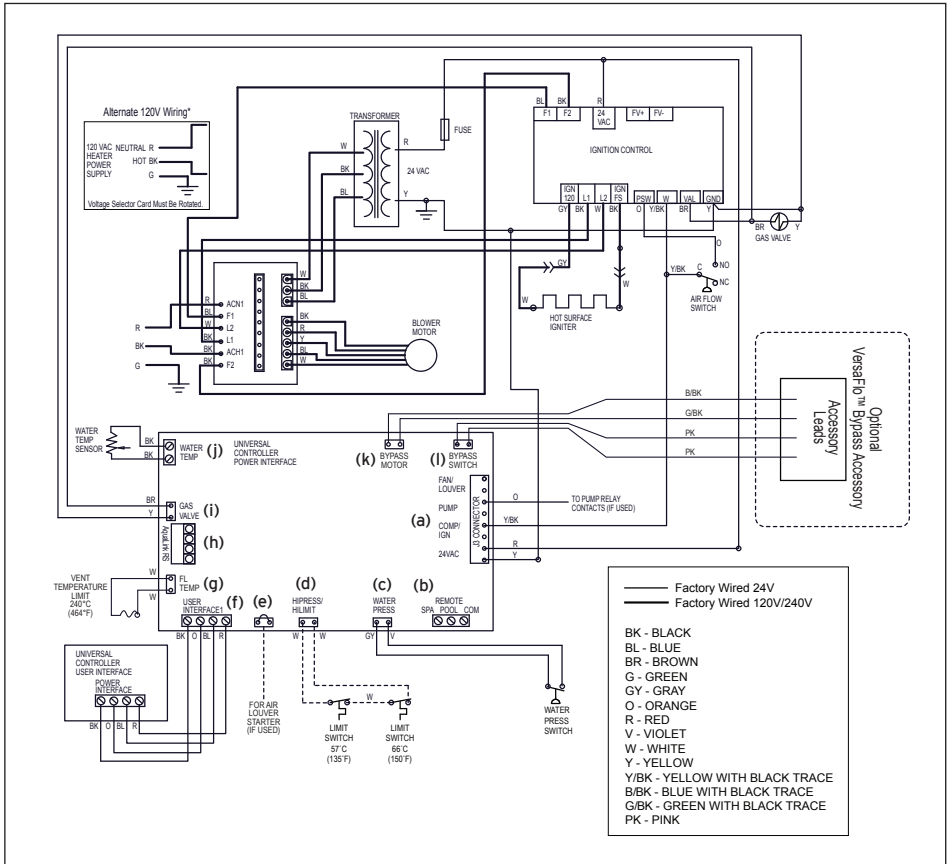

Figure 15. JXi Connections / Schematic Wiring Diagram
Refer to *Figure 15* for a complete diagram of wiring connections and terminals.
- Connect the wiring from the pool/spa control system to the heater remote control terminal. See *Figure 15* item “b”.
- Connect the two wires to Pool and Common (not Spa) on the J6 terminal bar. See *Figure 15* item "b".